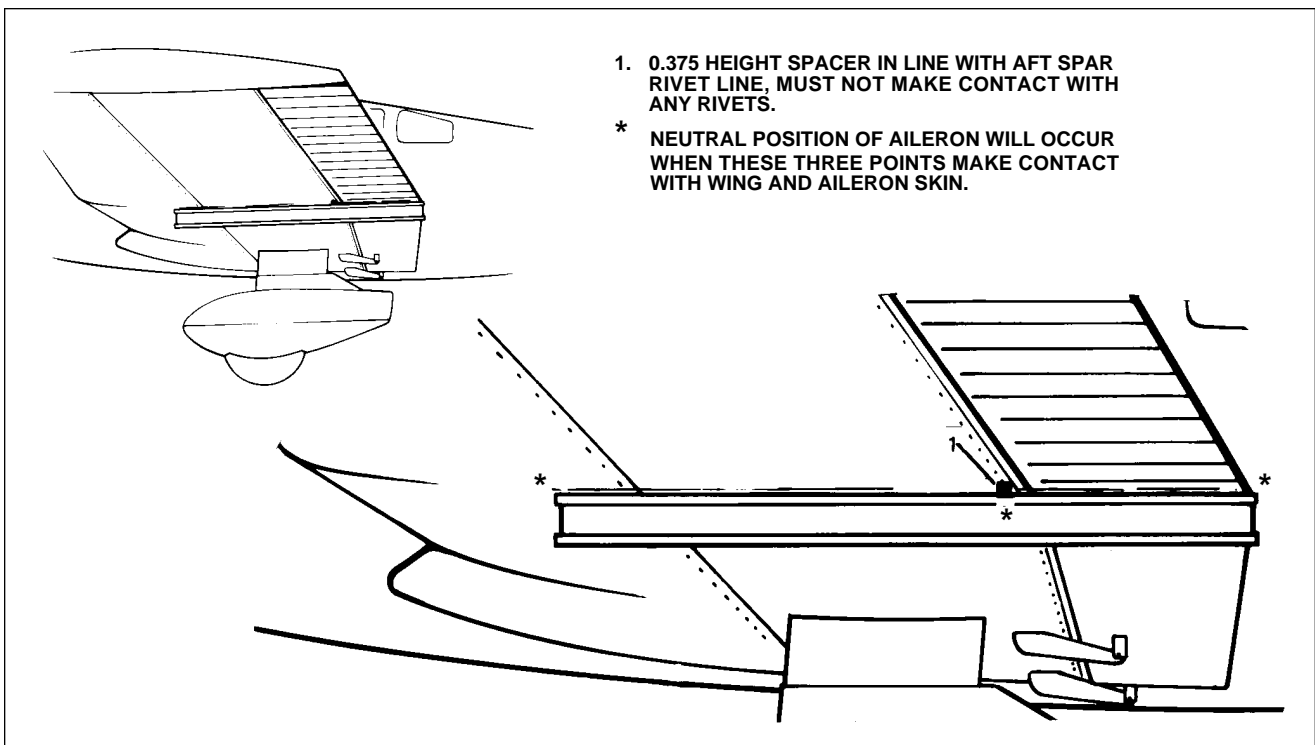
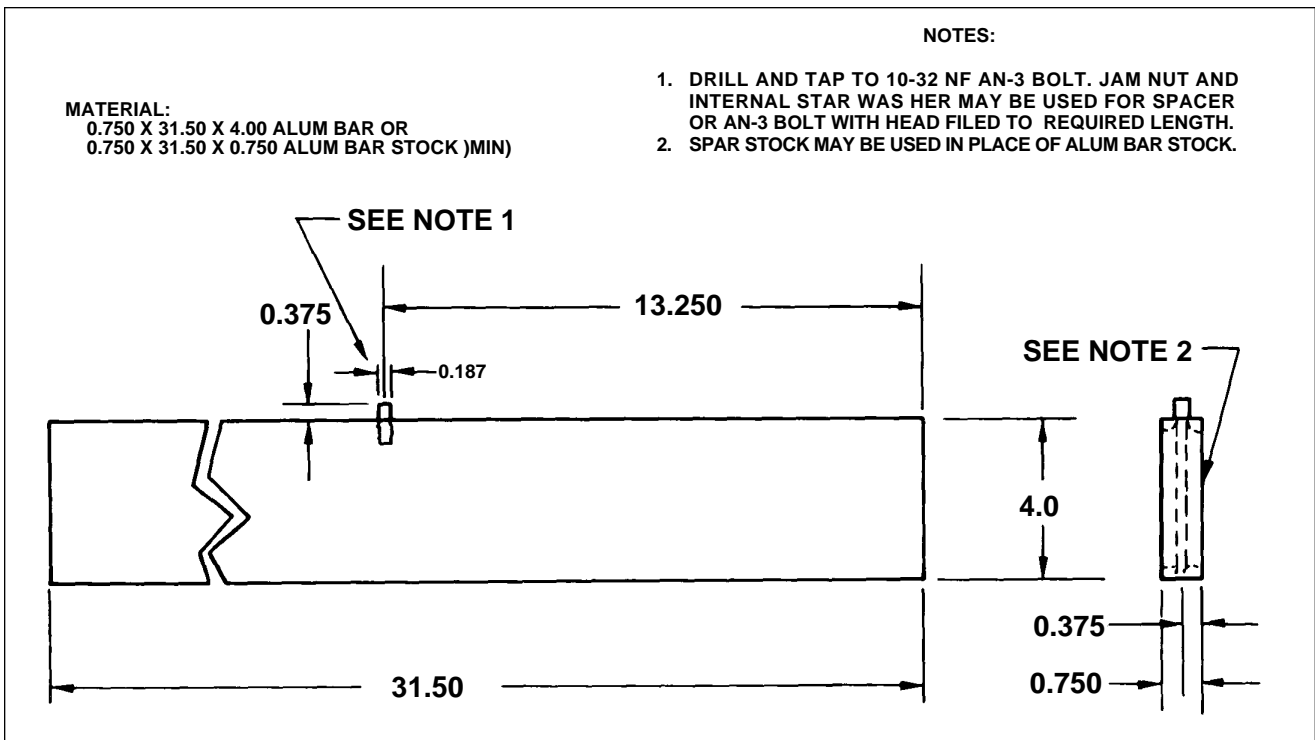

Figure 27-9. Aileron Rigging Tool
Figure 27-10. Fabricated Aileron Rigging Tool
E. RIGGING AND ADJUSTMENT OF AILERON CONTROLS (Refer to Figures 27-9 and 27-11.)
- b. Place aileron rigging tool per Figure 27-9 against wing underside. Place tool close to inboard end of aileron without contacting any rivets. Tool must be positioned parallel with wing ribs. The aft end of tool must be even with aileron trailing edge. Make tool from dimensions given in figure 27-10.